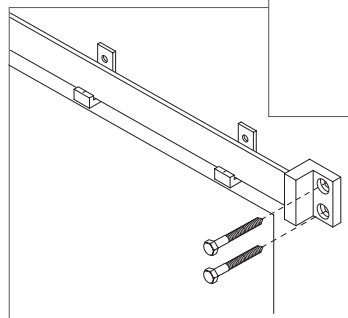

Figure 10
12. Install the end bracket using two lag screws (provided). (Figure 10).